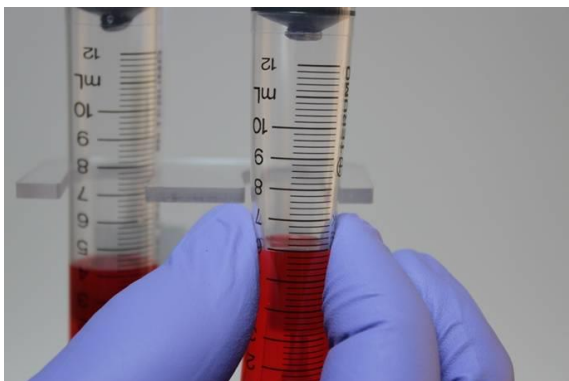

Figure 10: Squeeze reservoirs for insertion into holder
- 2) Insert the reservoirs into the holder. The reservoir connected to the tubing with the extra red marking (reservoir B) has to be inserted on the right side of the valve (front view). The mounting is easier if the reservoirs are squeezed. (Figure 10).